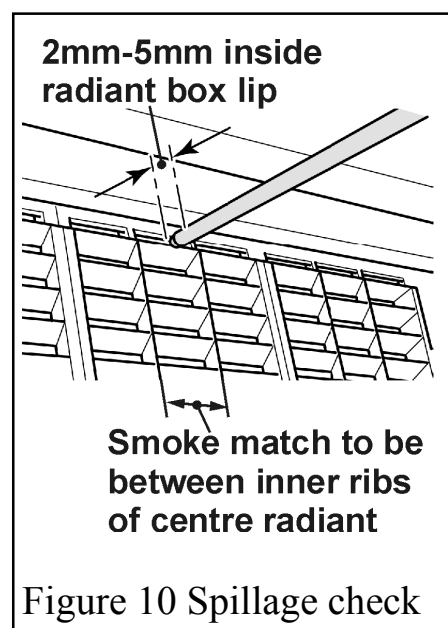

Figure 10 Spillage check
4. Place a smoke match tube (with lighted match) horizontally underneath the radiant box but touching the top lip of the box. The tube should be between the two vertical inner ribs of the centre radiant. The tip of the match should project between 2mm and 5mm beyond the lowest edge of the **radiant box lip** (The radiant box lip is behind the black outer case panel). See figure 10.